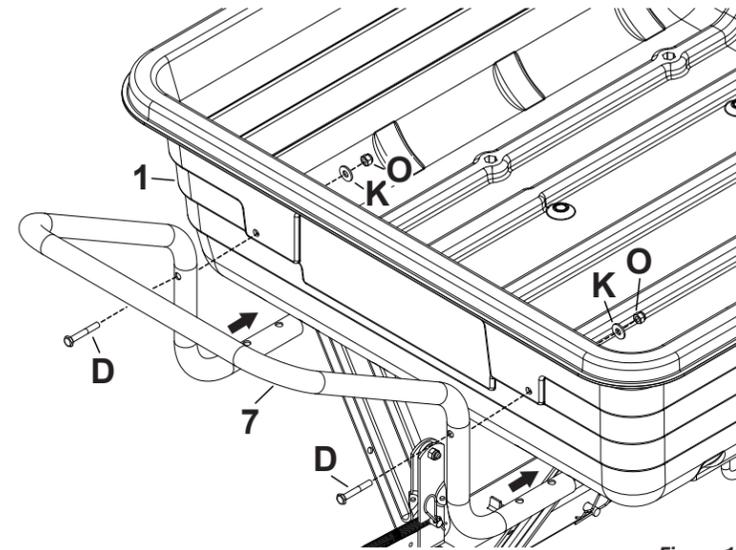

Figure 10
STEP 1 (SEE FIGURE 10): Install two 1/4-20 x 1-3/4" bolts (D) through the handle (7) and cart bed (1). The lower parts of the handle will sit below the latch stand bracket.
STEP 2 (SEE FIGURE 10): Install two washers (K) and 1/4-20 nylock nuts (O) onto the two 1/4-20 x 1-3/4" bolts (D). Do not fully tighten hardware.